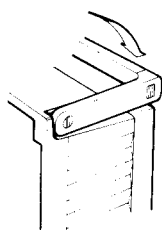

Figure 2.
1. Bring down the handle in the arrow direction as illustrated in Figure 2.